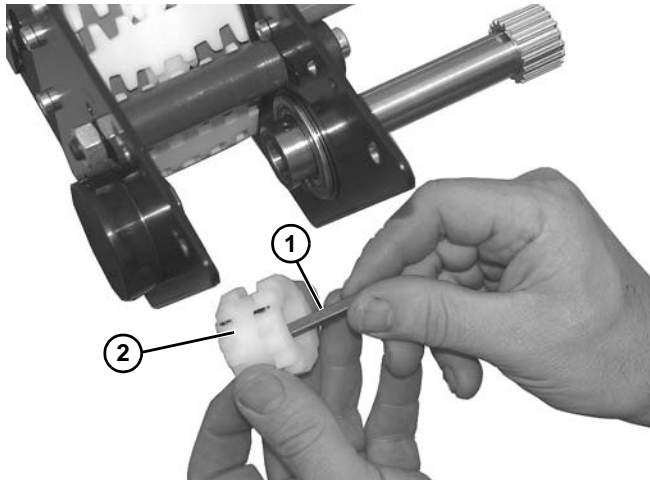

Figure 168
17. Remove key (Figure 168, item 1) from sprocket (Figure 168, item 2).